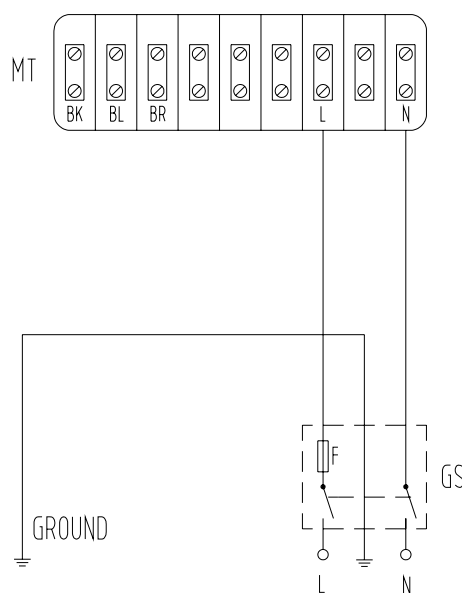

Figure 15 - Main line conection
Do not switch on and off the unit using the main switch indicated with the symbol GS in Figure 15.
1. Connect the main line to the appliance as indicate in the Figure 15.